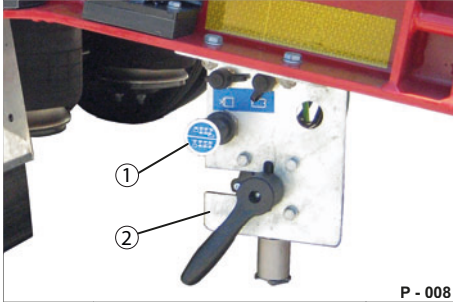

Fig. 53 Self-steering axle
The push-button (Fig. 53/1) is attached to the operating console.
- Pull the knob (Fig. 53/1).
- Press the knob (Fig. 53/1).